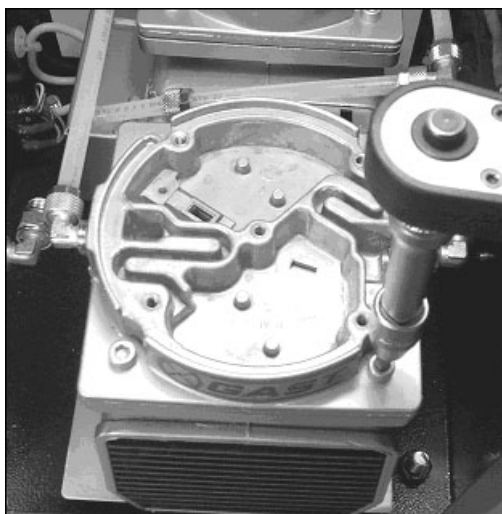

Figure 6.3. Replacing pump membranes, step 3 and 4.
3. The upper blade valve is kept in place by a valve restrictor, seen to the left in the upper pump chamber in figure 6.3. Remove restrictor and the blade valve.
4. The cylinder head can now be removed as illustrated in figure 6.3. Use an Allen key size 3/16" for the screws. In order to access the lower side of the head, the air inlet and outlet may have to be disconnected.